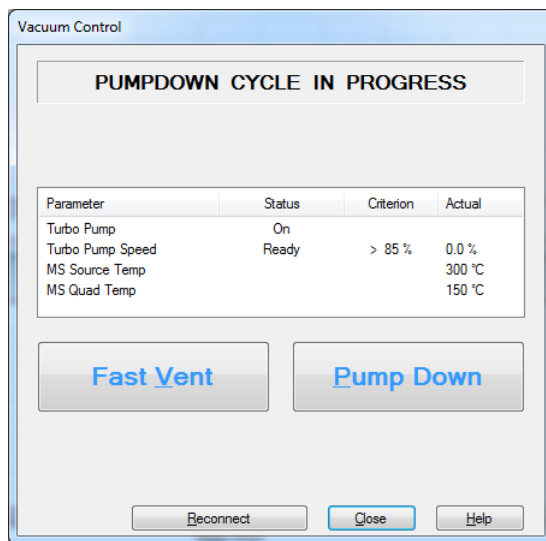

Figure 39 Vacuum Control dialog
- 10 In the **Instrument Control** view, from the Instrument menu, select **MS Vacuum Control** to display the **Vacuum Control** dialog. (See Figure 39.)